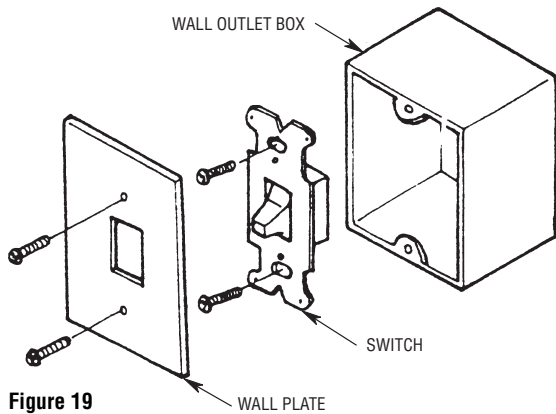

Figure 19
- 2. Disconnect wire from existing fan wall switch (Figure 19).